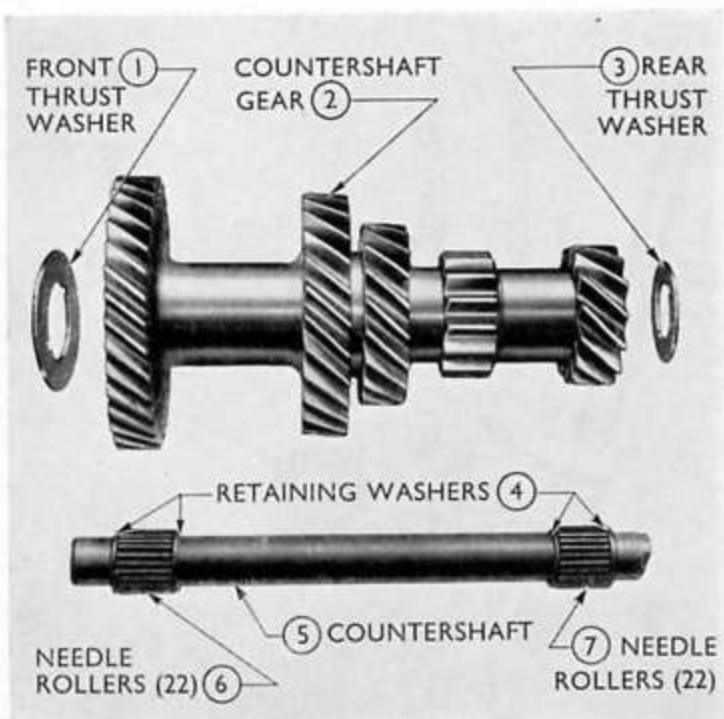

Fig. 6
16. Reassemble the countershaft (Fig. 6). Fit a retaining washer to abut the machined shoulder inside the gear, one at either end. Grease the needle rollers and locate twenty-two in the recess in the countershaft gear. Fit a retaining washer then insert the dummy countershaft to retain the rollers in position. Repeat this procedure at the other end of the countershaft gear. Locate the thrust washers in position in the gearbox. Ensure that the tongues on the thrust washers are located in the machined recesses in the gearbox.